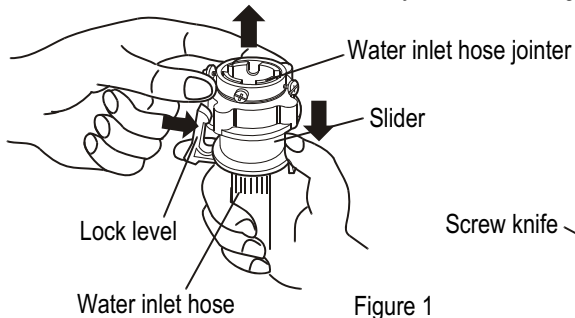
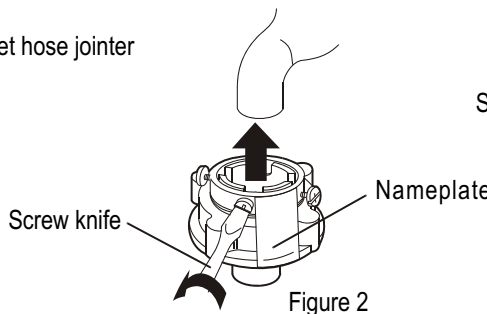
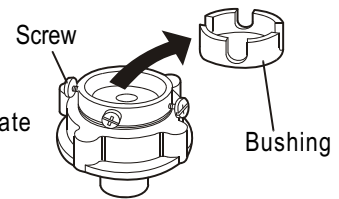

Figure 1
Figure 2
Figure 3
3. Put down the outer drain hose. Twist the drain hose nut counterclockwise to take it off as indicated in Figure 1. Take off the drain hose rack. Put the drain hose into the cabinet as indicated in Figure 2.
4. Dismount the protecting cover of the drain outlet at the other side as indicated in Figure 3.
1. Press the lower end of the lock lever and push down the slider. Take off the water inlet hose jointer from the water inlet hose component. See to Figure 1.
2 Loosen the four screws of the water inlet hose jointer till the water faucet can be accessed. Then set the water inlet hose jointer on the faucet. See to Figure 2. If the faucet is too large and the jointer cannot be set on, please loosen the four screws and take out the bush inside the jointer. See to Figure 3.